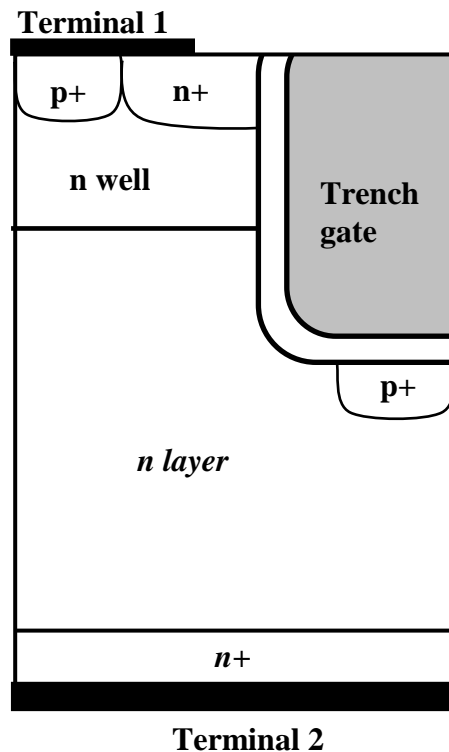

Fig. 2
3 The structure in Fig. 2 is a vertical Silicon Carbide MOS controllable power device with a trench gate.
- (d) Modify the device shown in Fig. 2 to operate as an Insulated Gate Bipolar Transistor (IGBT). What are the challenges, the benefits and the drawbacks of making an IGBT using Silicon Carbide? [25%]